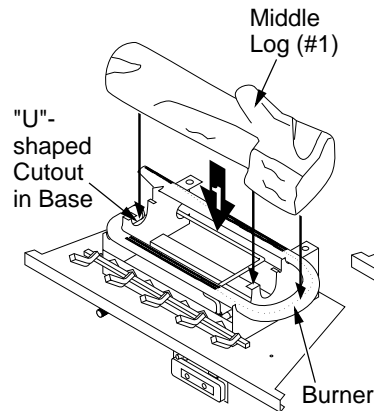

Figure 49 - Installing Middle Log (#1)
1. Place the base of the middle log (#1) in the U-shaped slots of the grate base. The cutout on the right of the middle log should fit over the burner (see Figure 49). Make sure the front of the middle log is resting on the tabs of the grate base and the cutout area is centered over the burner "U" bend.